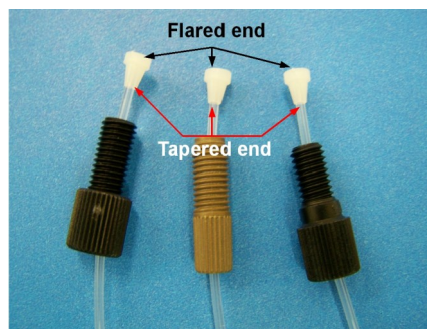

Figure 5: Orientation of the *White Ferrules*.
- The *White Ferrule* slides onto the tubing with the tapered end toward the *Nut* and the flared end toward the valve port. When installing and tightening these fittings, be sure that the tubing is pushed all of the way into the valve ports (Figure 5).